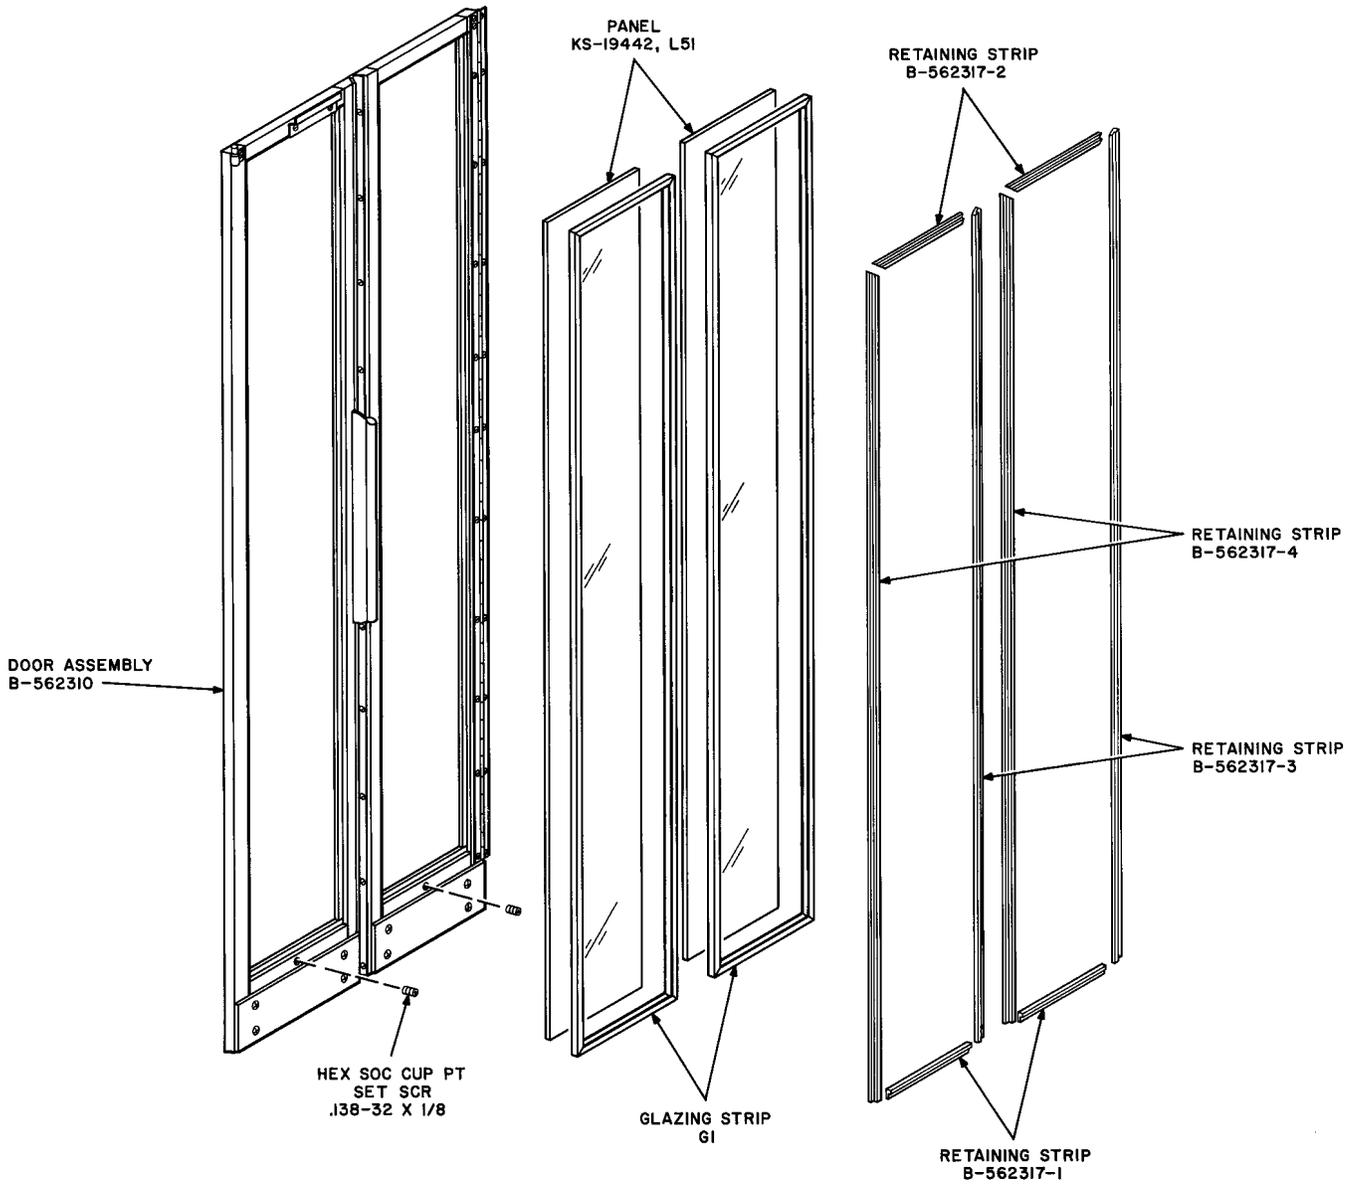

Fig. 7—Installation of Glass Panels in Door
- (a) Refer to Fig. 7 for installing door panels. Side and rear panels are similarly installed.